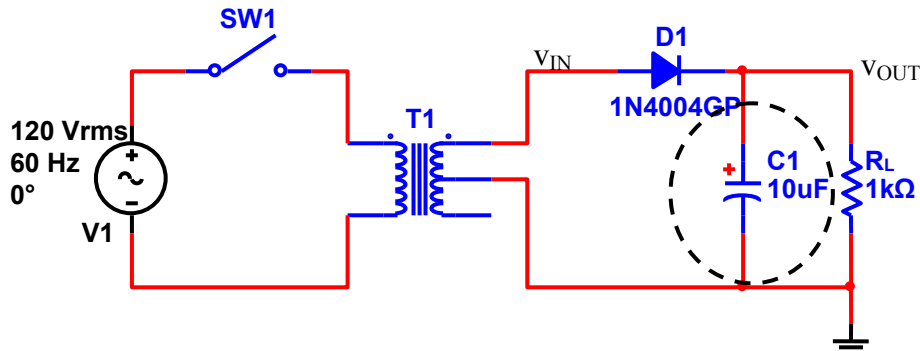

Figure 2-3.
- Figure 2-3: Half-Wave Rectifier Circuit (with filter cap)
1.4. Modify the half wave rectifier circuit by adding a  $10\mu\text{F}$  filter capacitor, as shown in Fig 2-3.